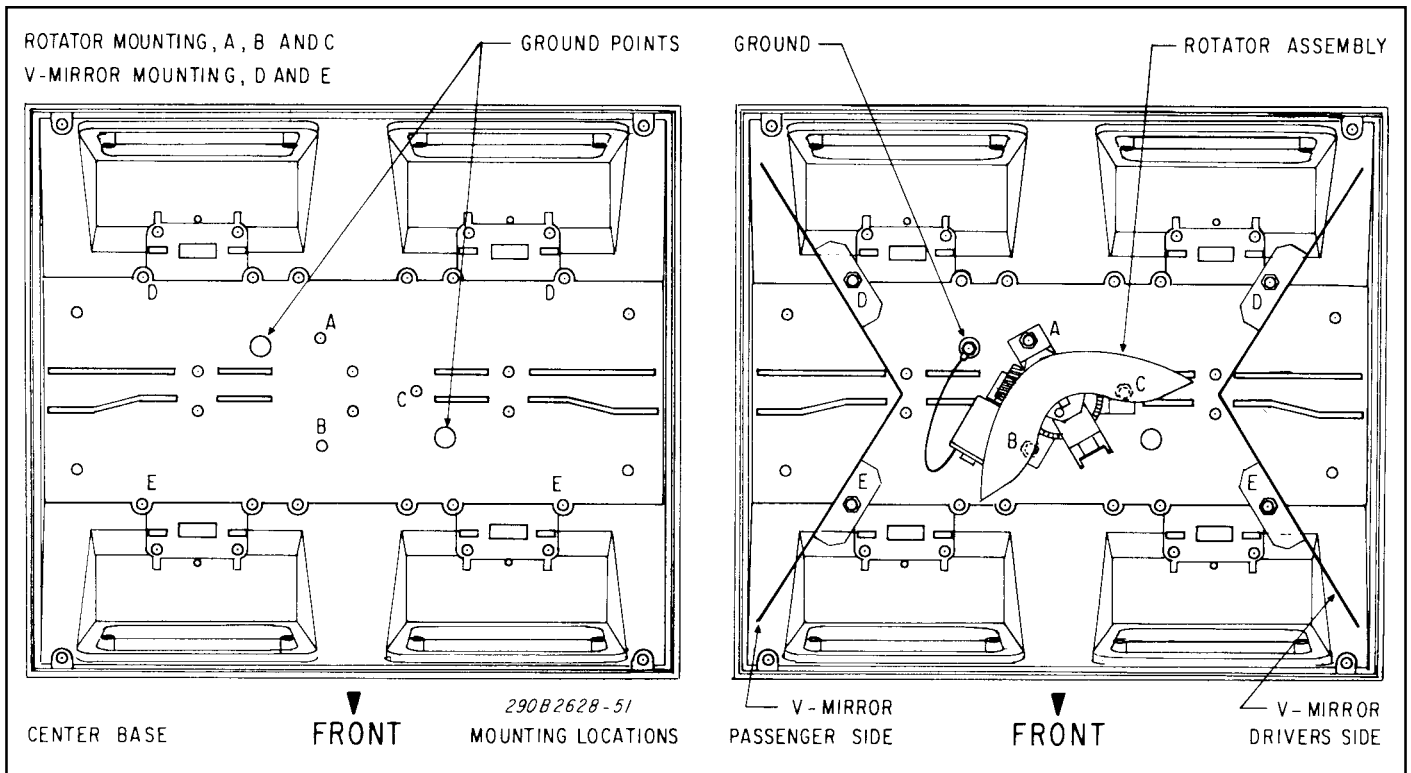

Figure 2.
- a. See figure 2. Place the rotating light assembly in position over screw hole locations "A", "B", and "C" in the center section of the lightbar.
- c. See figure 2. Place the two V-mirrors in position over hole locations "D" and "E" on both sides of the rotating light assembly in the center section of the lightbar.
- a. See figure 2. Place the rotating light assembly in position over screw hole locations “A”, “B”, and “C” in the center section of the lightbar.
- c. See figure 2. Place the two V-mirrors in position over hole locations “D” and “E” on both sides of the rotating light assembly in the center section of the lightbar.
- 1. See figures 2 and 5. Attach the black motor wire’s ring terminal to the lightbar’s metal channel/extrusion using a #10 x 3/4" hex head thread-forming screw, lockwasher, ground spacer, and two flat washers.